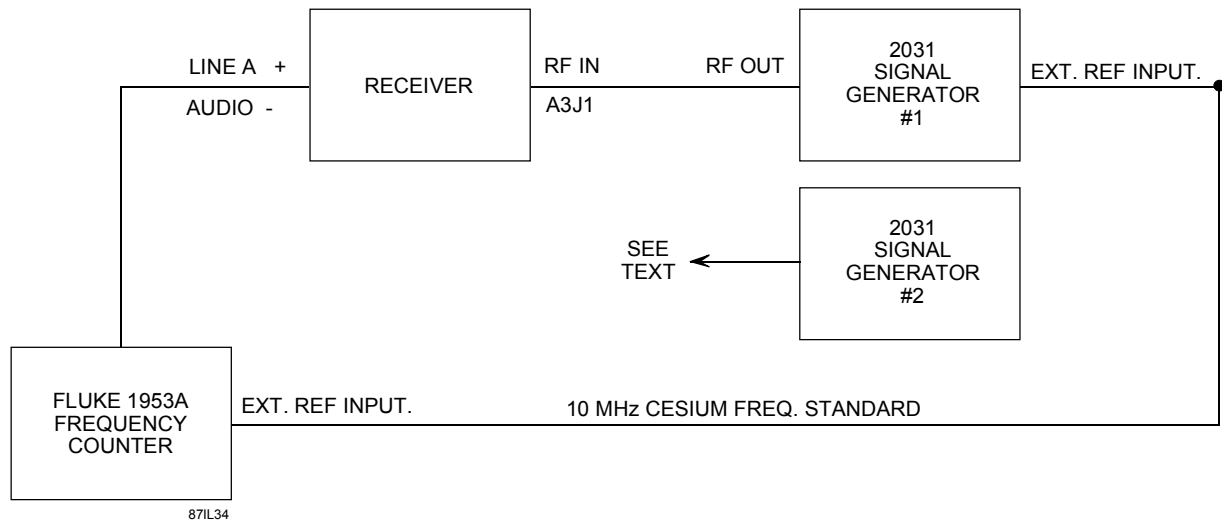

Figure 7-3. Reference Frequency Timebase Accuracy Performance Test Equipment Connection
1. Connect the WJ-8711A Receiver and test equipment as illustrated in *Figure 7-3*. Apply power to the receiver and test equipment and allow a warm-up period of at least 30 minutes before proceeding with the timebase testing.